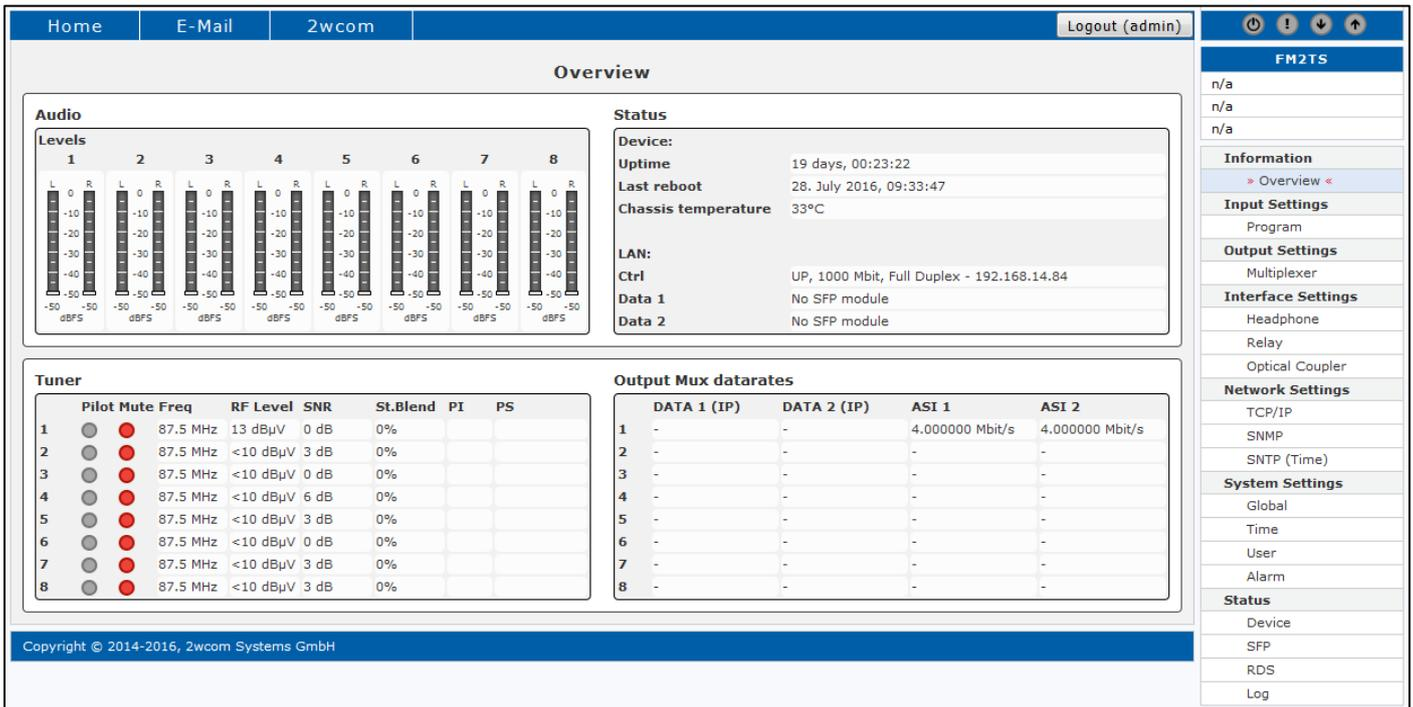

Figure 12: Current data rate of the IP outputs signals and ASI output signals
8. Check the current data rate of the IP outputs signals or ASI outputs signals under **Information**→**Overview** in the block **Output Mux datarates** (see Figure 12).
The relays can be used for alarm signaling of monitoring functions. Figure 12 shows the scheme of possible switching contacts.